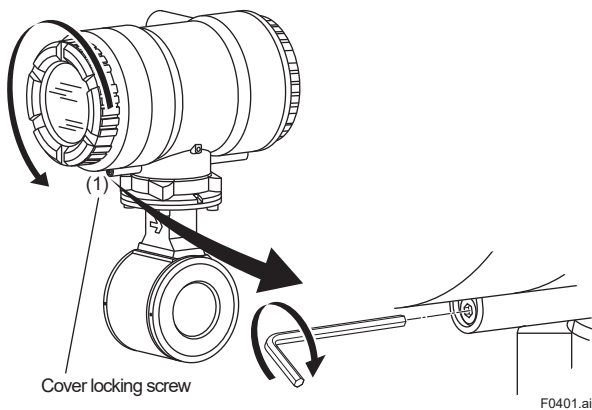
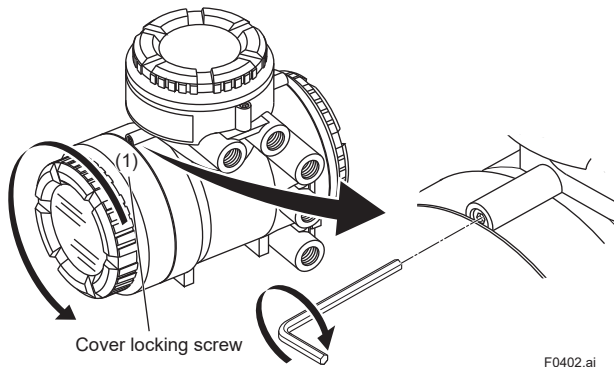

Figure 4.1.1 Removing the Display Cover (AXW Integral Flowmeter)
Figure 4.1.2 Removing the Display Cover (AXW4A Remote Transmitter)
- Using the wrench, loosen the cover locking screw (1) (See Figure 4.1.1 and Figure 4.1.2) clockwise to unlock the cover. Upon shipment from the manufacturing plant, the cover is locked. Hold the flowmeter with your hand. Remove the cover by rotating it counterclockwise.
**(3) Installing the Cover**
- Tighten cover locking screw (1) (See Figure 4.1.1 and Figure 4.1.2) counterclockwise using a hexagonal wrench (nominal size 3) to lock the cover.